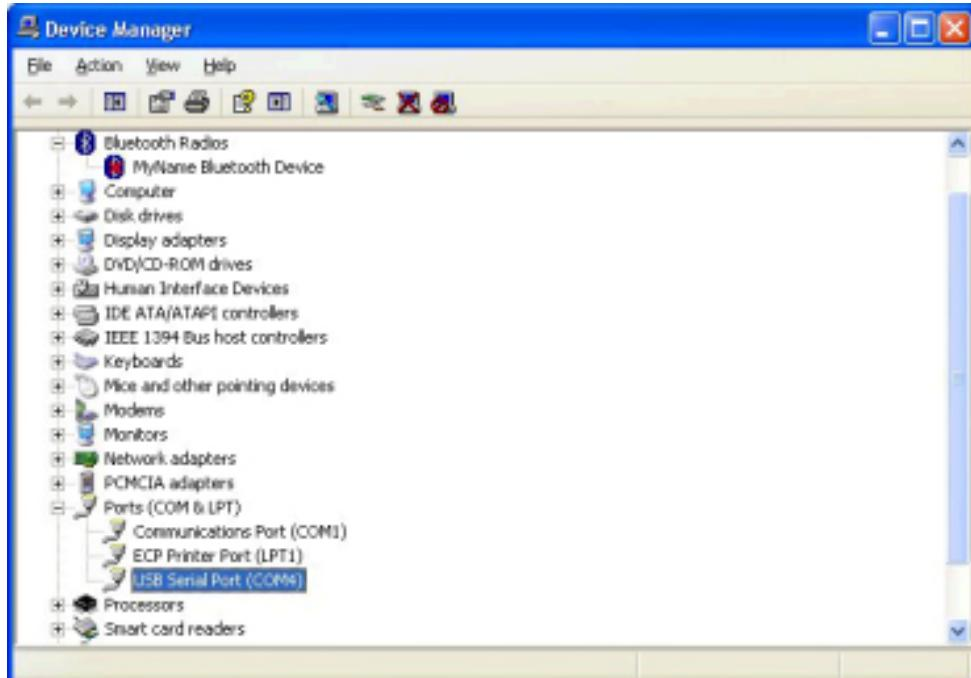

Figure 3-7: COM port device manager
- Double click on **Parts (COM &LPT)** to see the available USB Serial Port as shown in Figure 3-7, below.